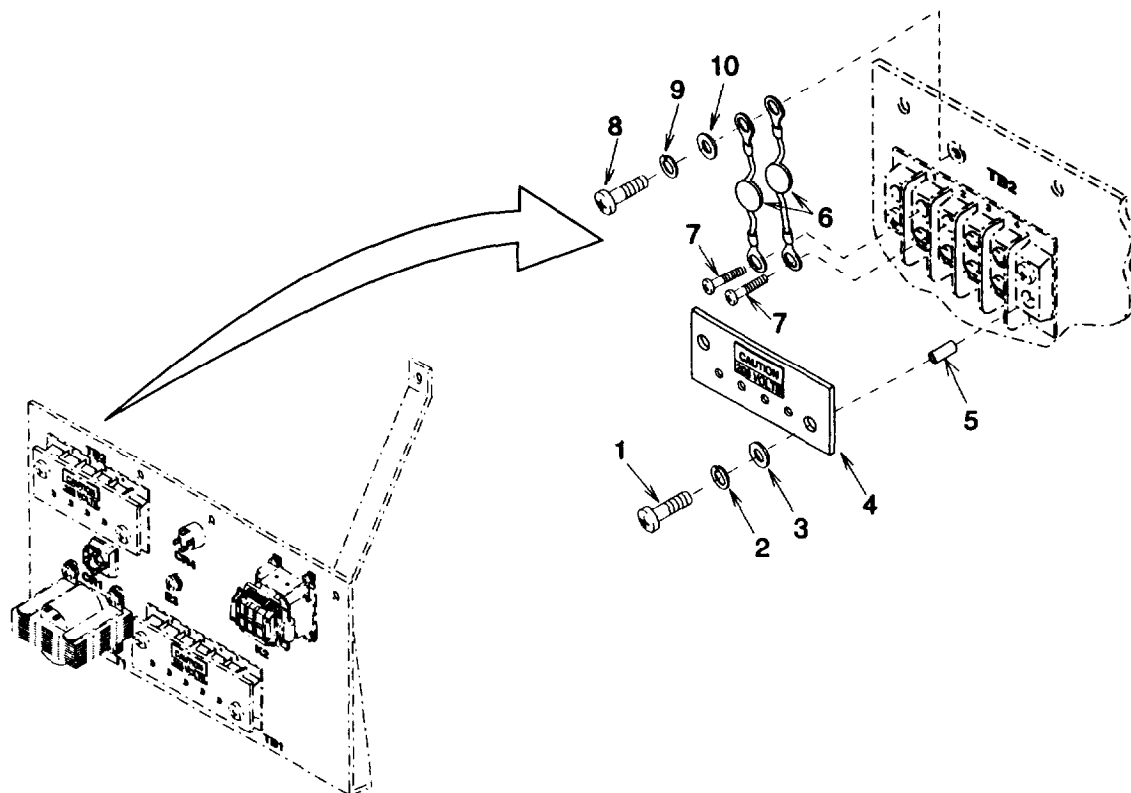

Figure 3-43. Capacitors (C3 and C4)
(1) Capacitors C3 and C4 Removal.
- (a) Remove two screws (1) Figure 3-43, lock washers (2), flat washers (3), cover (4), and two posts (5). Discard lock washers.
- (b) Tag wire leads connected with capacitors (6) leads.
- (c) Remove three screws (7).
- (d) Remove screw (8), lock washer (9), flat washer (10), and three capacitors (6). Discard lock washer.
(1) Capacitors C3 and C4 Installation.
- (a) Install two capacitors (6) Figure 3-43, screw (8), flat washer (10), and new lock washer (9).